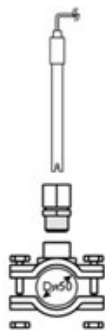

Fig. 3
a) Saddle for the pH sensor (Fig. 3): Before installation, drill a hole in the top of the pipe with size approx. 12 mm. and make sure the sensor can pass through. Install the saddle so that the hole in the pipe coincides with the sensor connection of the saddle. (Saddle needs to be purchased separately)